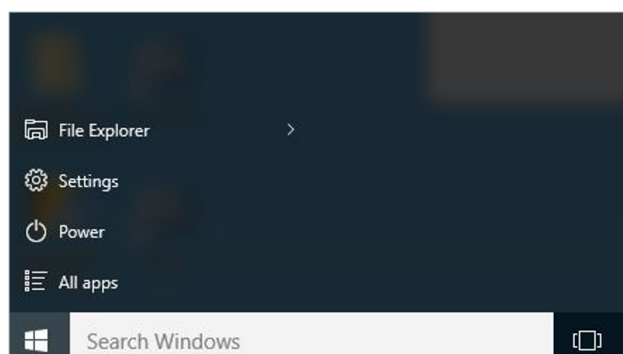

Figure 20. The task bar search feature. (Type *Activate* and press the **Enter** key).
- 7 Using the task bar (search bar) shown in **Figure 20**, type *Activate* and press **Enter** to present the **Settings > Activation view** (not pictured).